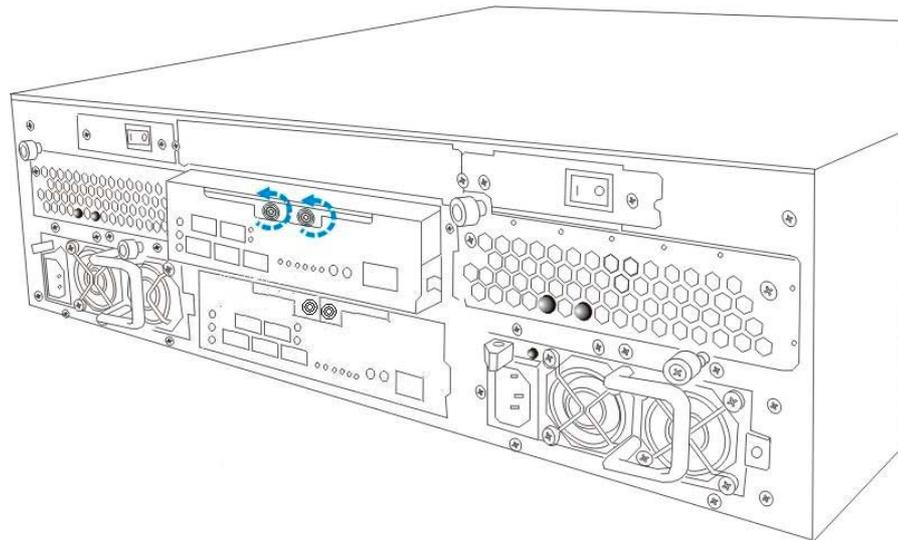

Figure 5-1: Remove the Retention Screws.
Step 3. Once all the cables have been disconnected, *loosen the silver hand screws* that secure the ejector handles to the controller module. (See *Figure 5-1*)